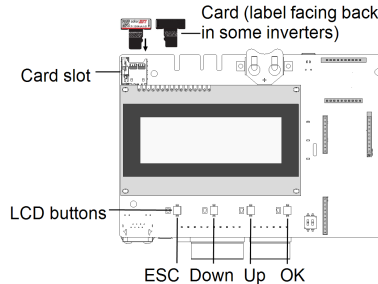

Figure 18: Communication board and activation card
1. Perform pairing: Press and hold down the inverter LCD OK button (rightmost on the communication board; see *Figure 18*) for about **10 seconds**. The following message is displayed: